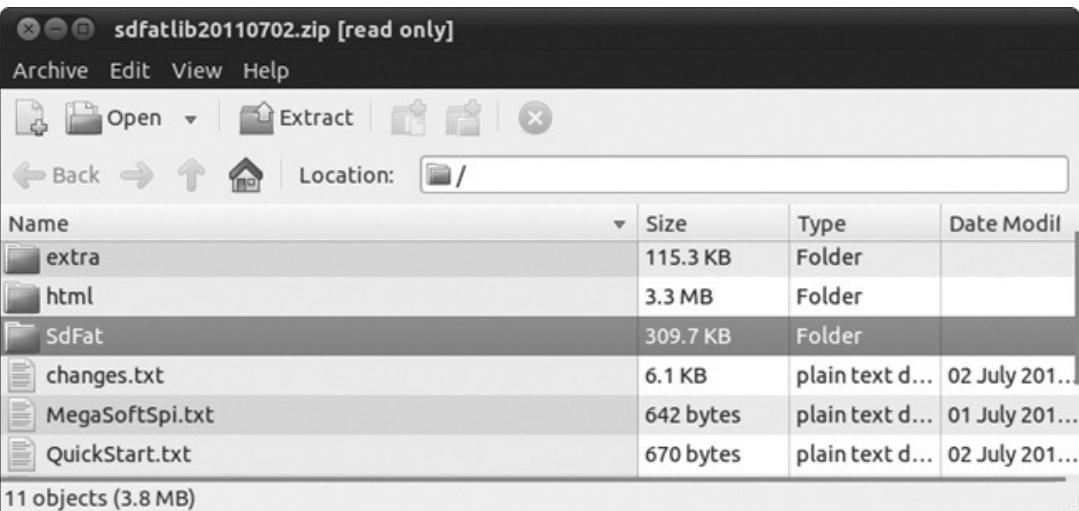
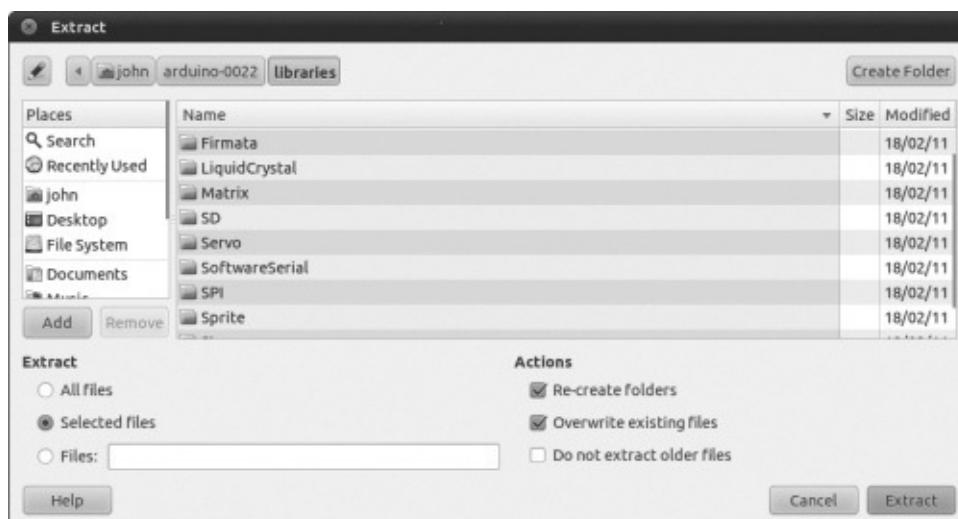

Figure 8-21. Downloaded library folder
Figure 8-22. Destination for library folder
1. Locate the downloaded file and double-click it. The Archive Manager window should appear with the *SdFat* folder, as shown in Figure 8-21.
- Right-click the *SdFat* folder in the window shown in Figure 8-21, and then click **Extract** to extract it to your */libraries* folder (Figure 8-22).